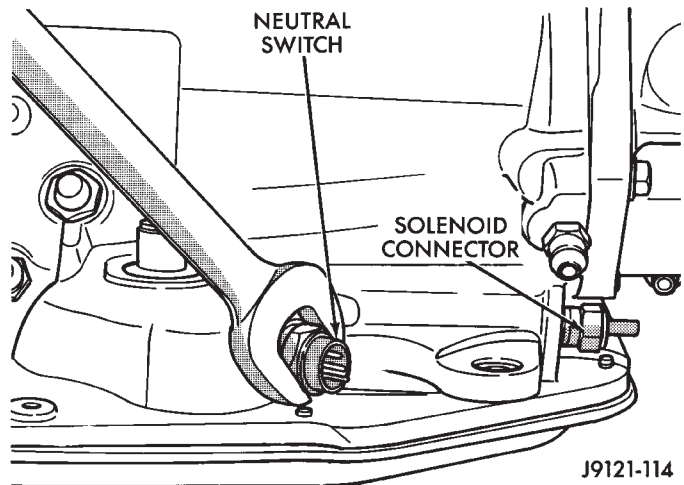

Fig. 3 Park/Neutral Position Switch Removal/Installation
- (7) Remove park/neutral position switch and seal (Fig. 3).